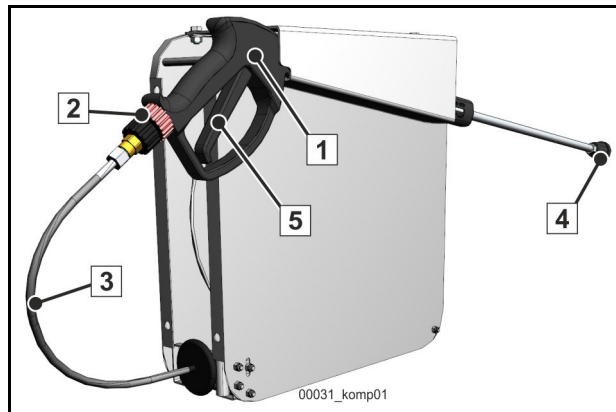

Fig. 429 Hose reel and spray lance
- Hold the spray lance tightly and direct the spraying nozzle (4) (Fig. 429) such that the water can flow out freely.
- Actuate the trigger of the spray lance (1) (Fig. 429) until water no longer escapes from the spraying nozzle.